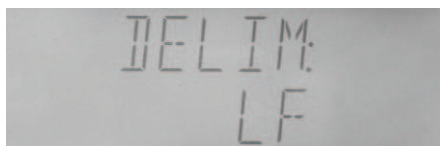

Figure 4-33 Ending symbol selection
- At system setup page, select "DELIM" through 【◀】 or 【▶】 key, as shown in Figure 4-33.